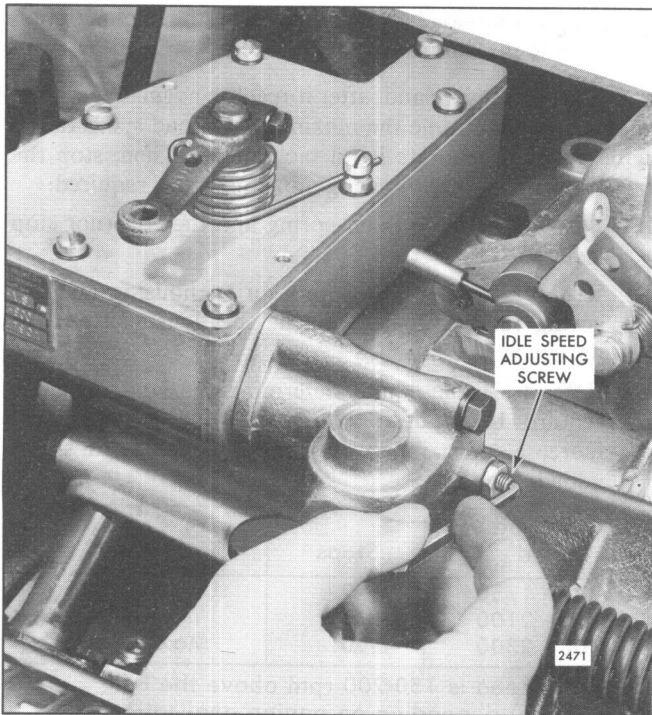

Fig. 5 – Adjusting Idle Speed
- 3. Loosen the locknut and turn the idle speed adjusting screw until the engine is operating at approximately 15 rpm below the recommended idle speed (Fig. 5). The recommended idle speed is 500 rpm, but may vary with special engine applications.